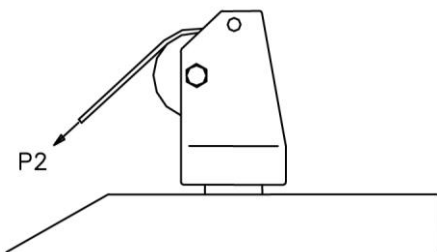

Fig 4
6. Go around head pulley. (Fig 4)